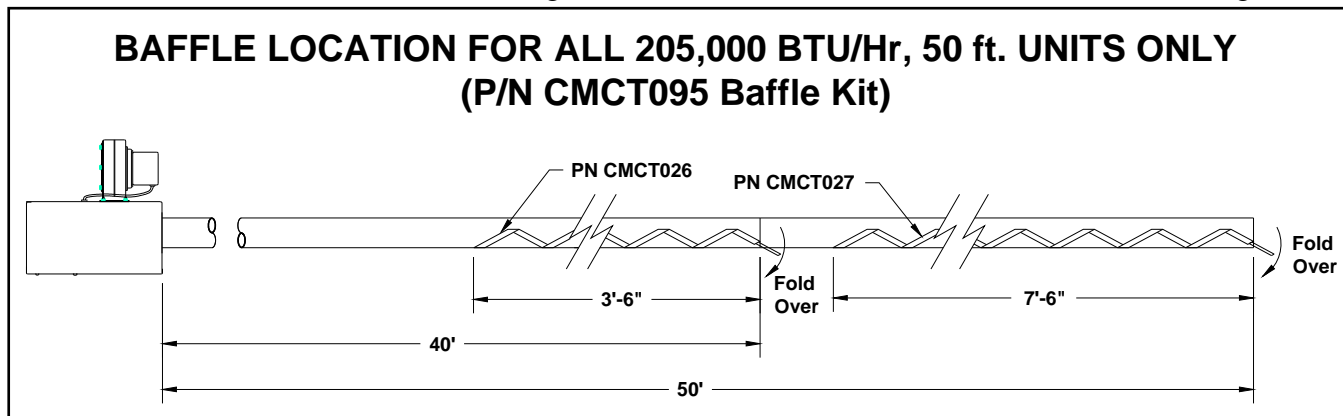

Figure 3: Baffle Location ITH-205 Models
- 205,000 BTU/Hr 50' heat exchanger with a 4' baffle at 40', and a 8' baffle at 50' (See Figure 3)
*Note: Baffles are always placed at the end of the last heat exchanger tube length, with the exception of the special configuration ITH-205 with a 50' tube length, (Figure 3) for more details.*